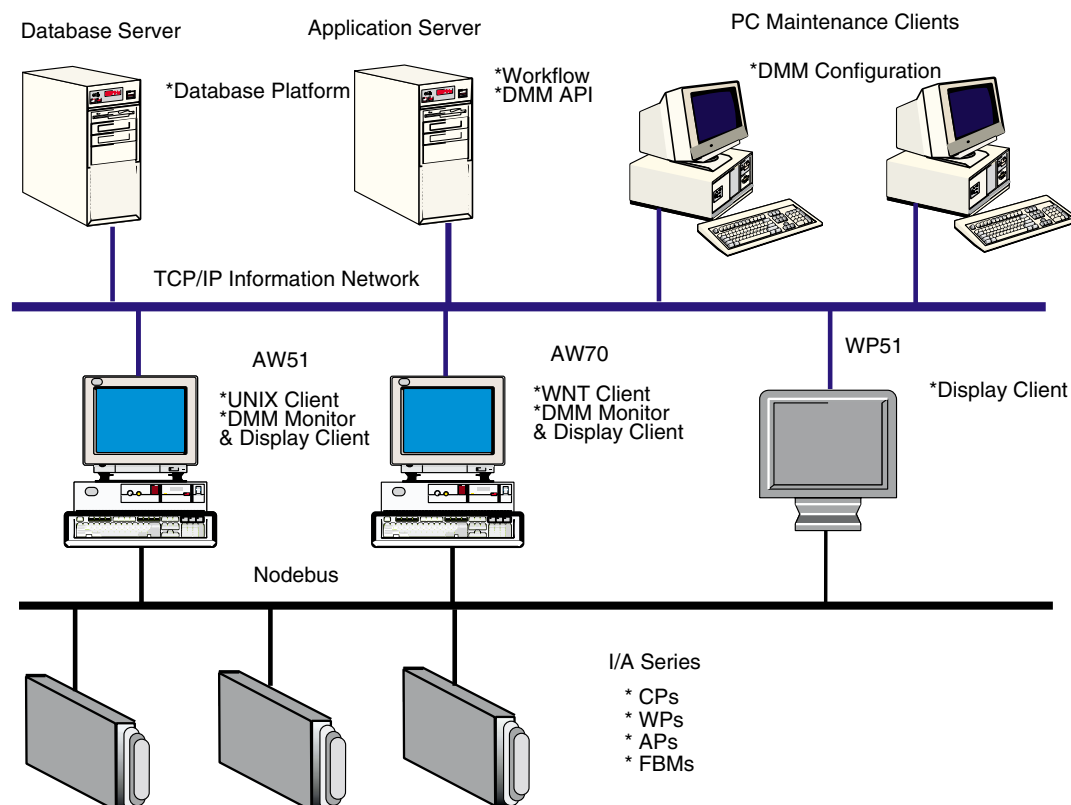

Figure 9. FoxDMM Maintenance System Architecture
FoxDMM is an I/A Series software application implemented with the client/server architecture shown in Figure 9. The system consists of the FoxDMM database server, the FoxDMM Application server, the I/A Series workstation clients, and Windows-based personal computer (PC) clients. Servers and clients communicate over the information systems TCP/IP network. FoxDMM monitoring applications communicate with the control process through the I/A Series Nodebus.